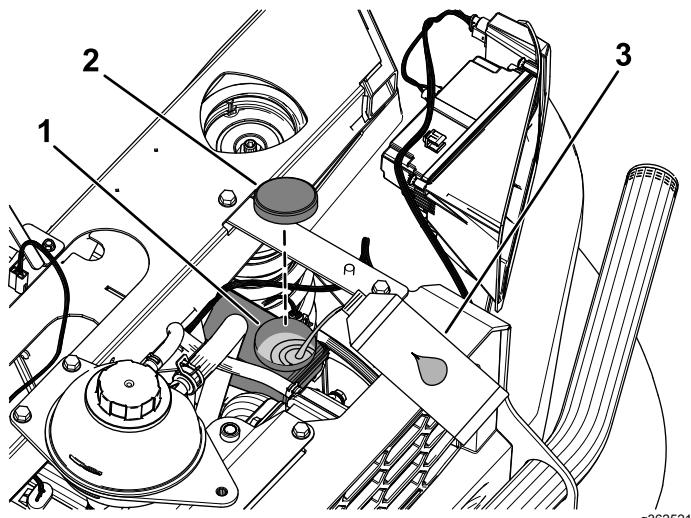

Figure 84
4. Raise the hood to access to the master brake cylinder and reservoir (Figure 84).
- A. Clean the area around the reservoir cap and remove the cap (Figure 84).
- C. Install the reservoir cap (Figure 84).